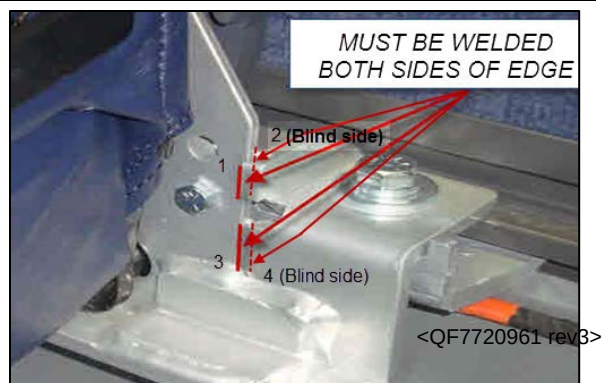

Figure 1
- 2) Four weld beads must be present on the bracket. Two on aisle side and two on wall (blind) side, (fig.1).